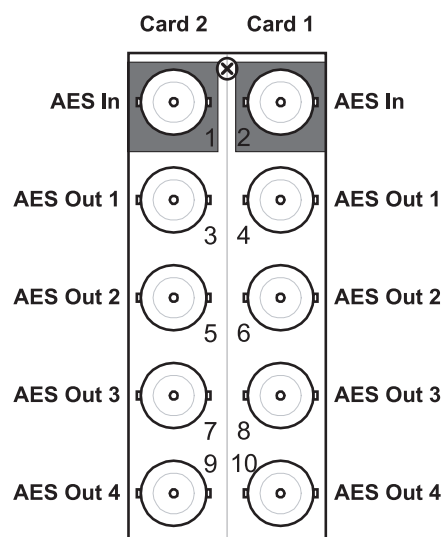

Figure 2.3 Cable Connections for the 8320AR-031 Split Rear Module
- **8320AR-031** Split Rear Module — Each rear module occupies two slots and accommodates two cards. This rear module provides one AES input and four AES outputs per card. (**Figure 2.3**)